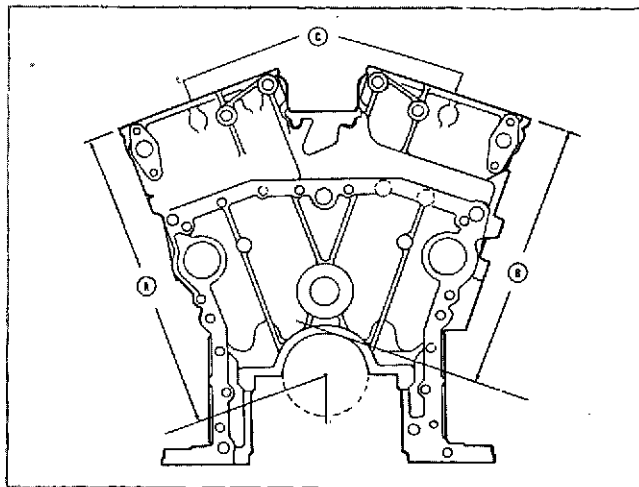

Fig. 1-1-22, V40106. Cylinder block height
3. Check distance from centerline (A, Fig. 1-1-22) of main bearing bore to top of block.